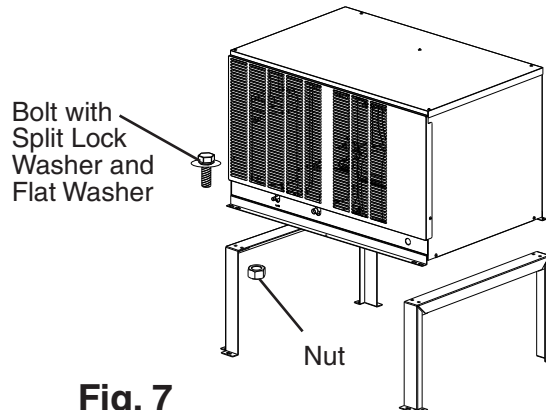

Fig. 7
- 1) Secure the legs to the remote condensing unit with the 8 bolts and nuts provided. See Fig. 7.